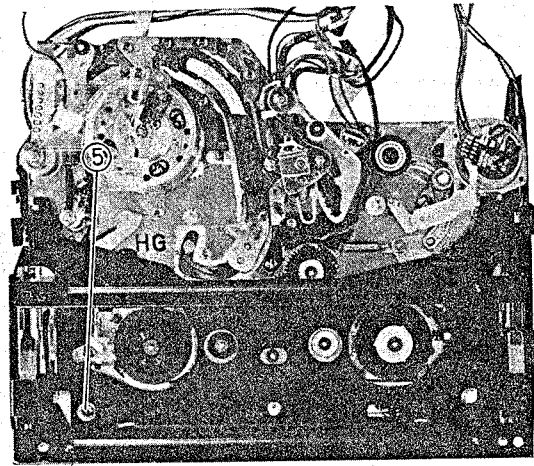

Fig. 2-76 Safety Tab Switch Removal
5. Remove one (1) screw holding the safety tab switch. (See Fig. 2-76)